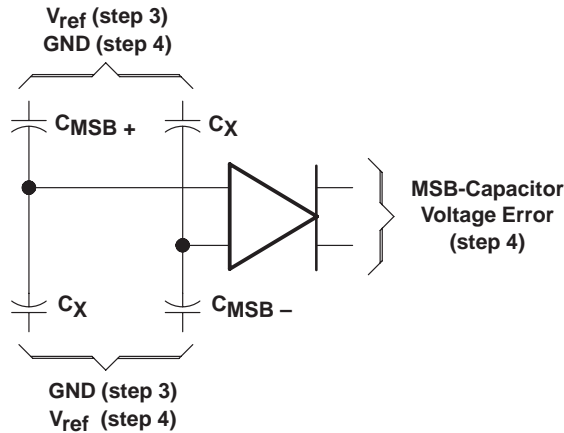

Figure 2. Capacitor Array Null
4. The MSB capacitor is tied to GND, while the rest of the array capacitors (C_x), are tied to REF. An MSB capacitor voltage error (see Figure 2) on the comparator output occurs if the MSB capacitor does not equal the sum of the other capacitors in the capacitive array. This error voltage is converted to an 8-bit word from which a capacitor error is computed and stored in the RAM.